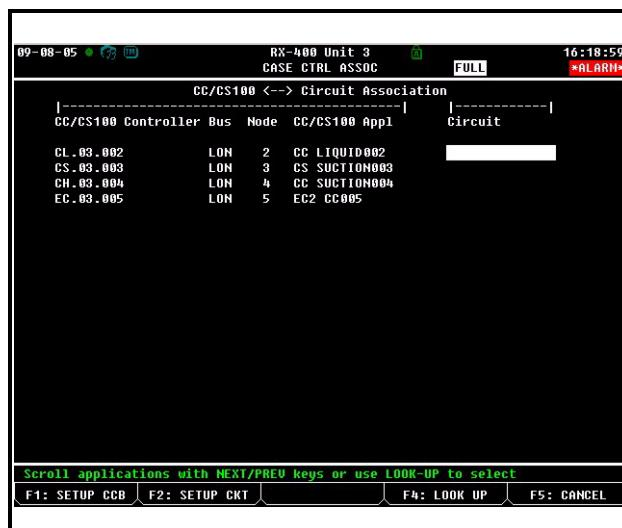

Figure 11-7 - CC/CS100 Circuit Association Screen (RX-400)
4. Press **5** for Case Control Associations. The Case Control Association screen should look like **Figure 11-7**: